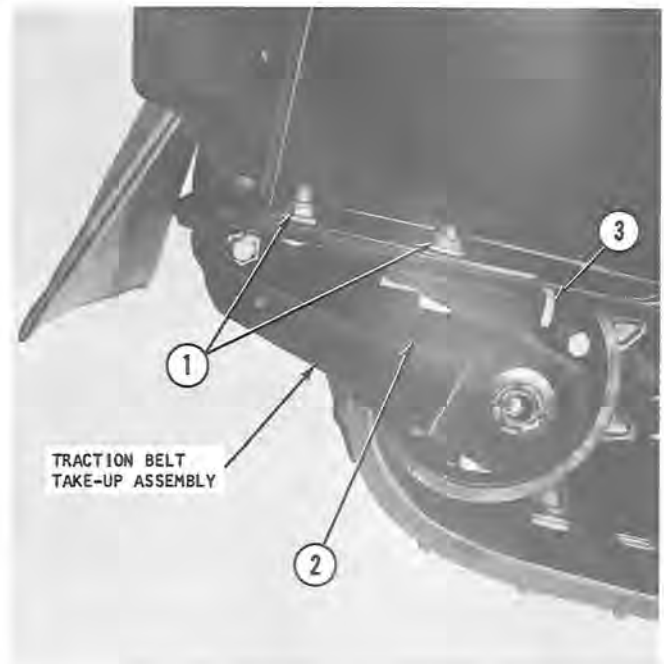

Figure 16
- If the track is not centered, loosen the two locknuts (1, figure 16) on that side where the edge of the track is closest to the inside edge of the tunnel. Tighten the adjusting screw (3) until track is centered. Then tighten the locknuts (1).
- If adjustment is necessary, loosen the two locknuts (1, figure 16) on each side of the sled just sufficiently to allow movement of the belt-adjusting angle (2).